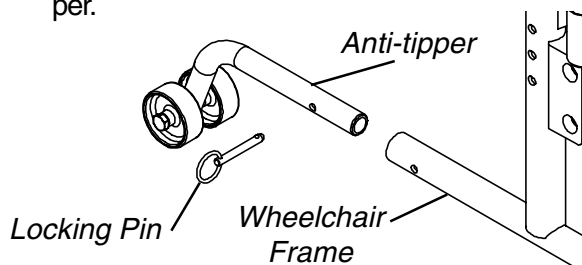

FIGURE 2 - INSTALLING THE ANTI-TIPPERS
2. Secure the anti-tipper to the wheelchair frame with locking pins as shown in FIGURE 2.